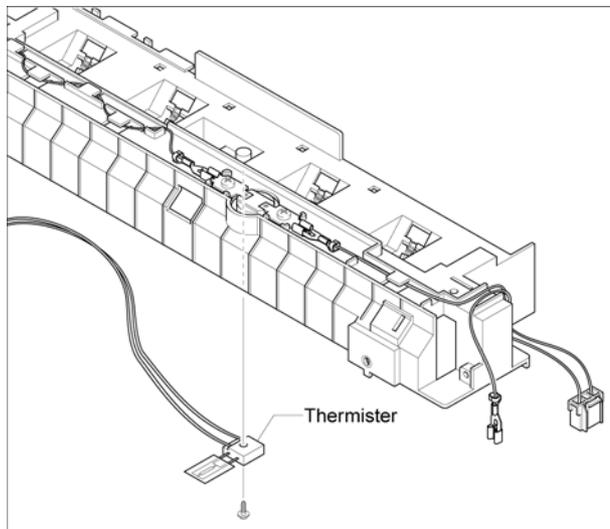

Figure 8
9. Remove 1 screw, then the Thermistor, Figure 8.